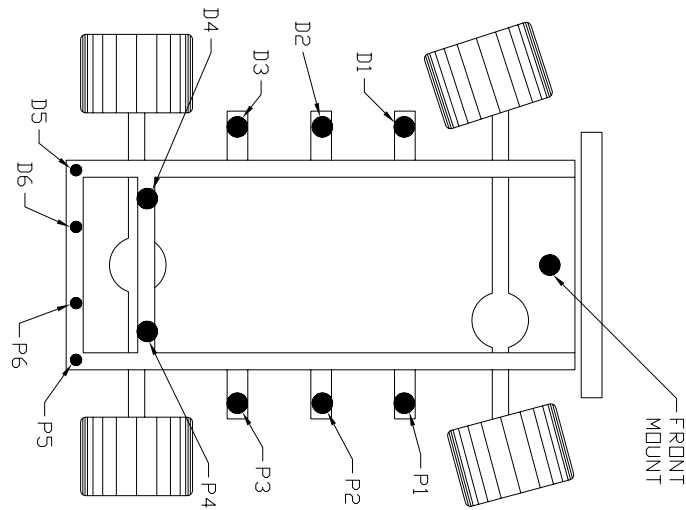

Figure 4
10. Remove body mount bolts at the following locations as indicated – Fig 4: FRONT MOUNT, P1, P2, P3, P4, P5, P6, and D6.